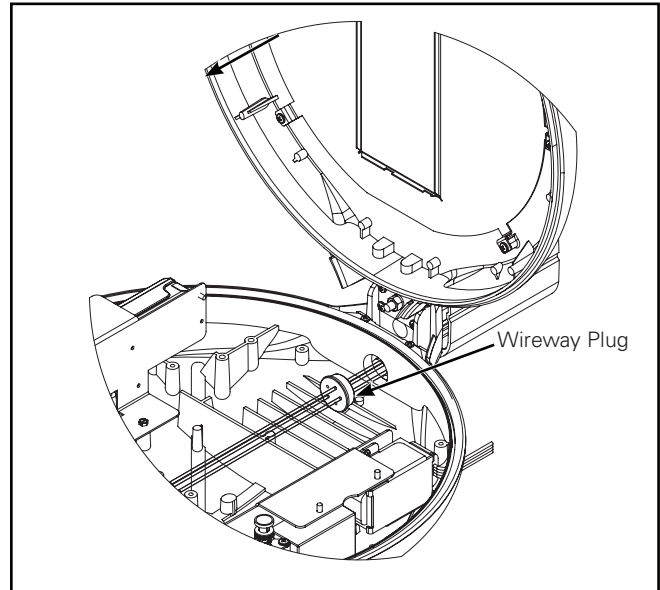
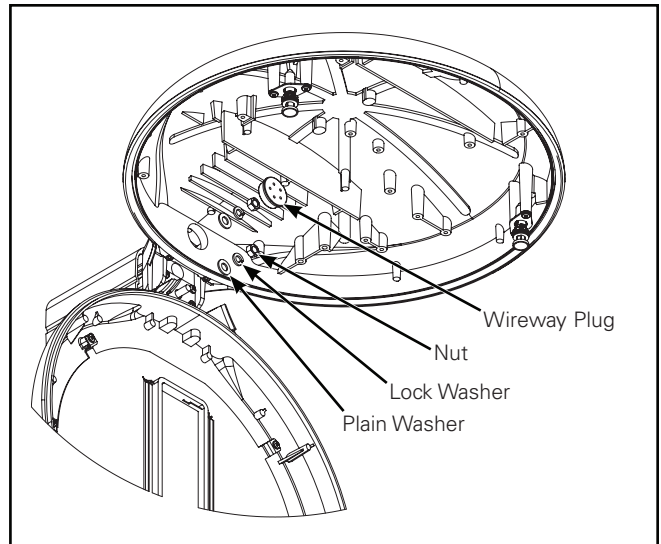

Figure 3A.
Figure 3B.
Attaching Housing to Arm (Figure 3A – 3B.)
1. Remove the wire way plug from the housing. Move the fixture leads aside so the threaded rods may be accessed through the fixture housing (Figure 3A.). Feed the fixture wires through the arm. Slide the housing over the threaded rods and secure it with plain washers, lock washers, and hex nuts. Torque hex nuts as follows: Medium Icon (ICM) – 450 in-lbs., Small Icon (ICS) - 130 in-lbs. (Figure 3B.). Re-install the wire way plug into the wire way in the housing.